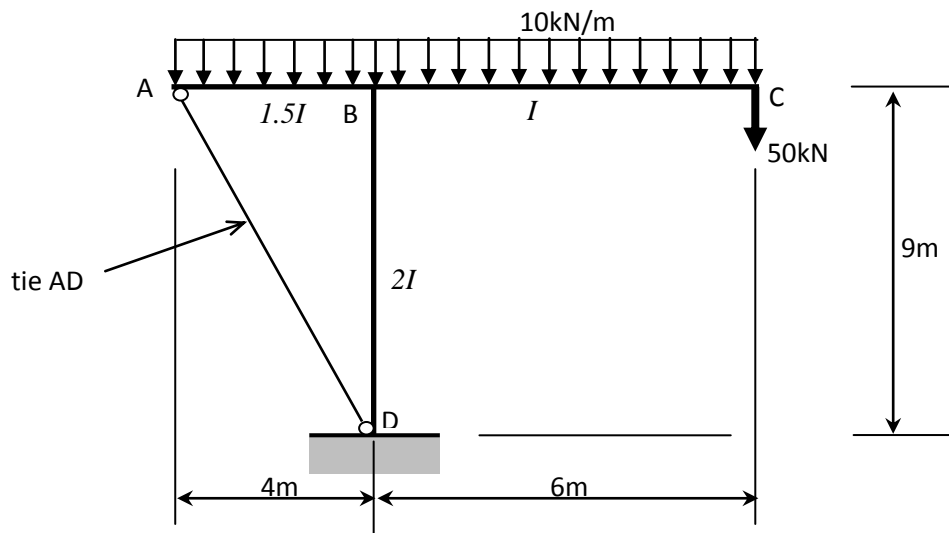

Figure 7
- (b) Figure 7 shows a T-shape frame with fixed support at D where an additional tie AD has been installed with the aim of reducing bending moment at end B of the vertical column BD. Both member ends of the tie AD are pinned. Member AB and BC of the frame carry uniformly distributed load of 10kN/m. A point load of 50kN acts at point C.